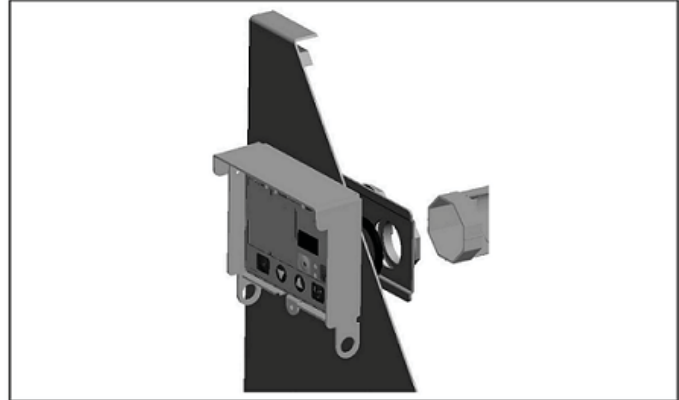

FIGURE 4.
2. Insert User Interface into the base of the 3R enclosure provided and through the holes as prepared in Step 1 above for Type 1/12 installations (**Figure 4**).